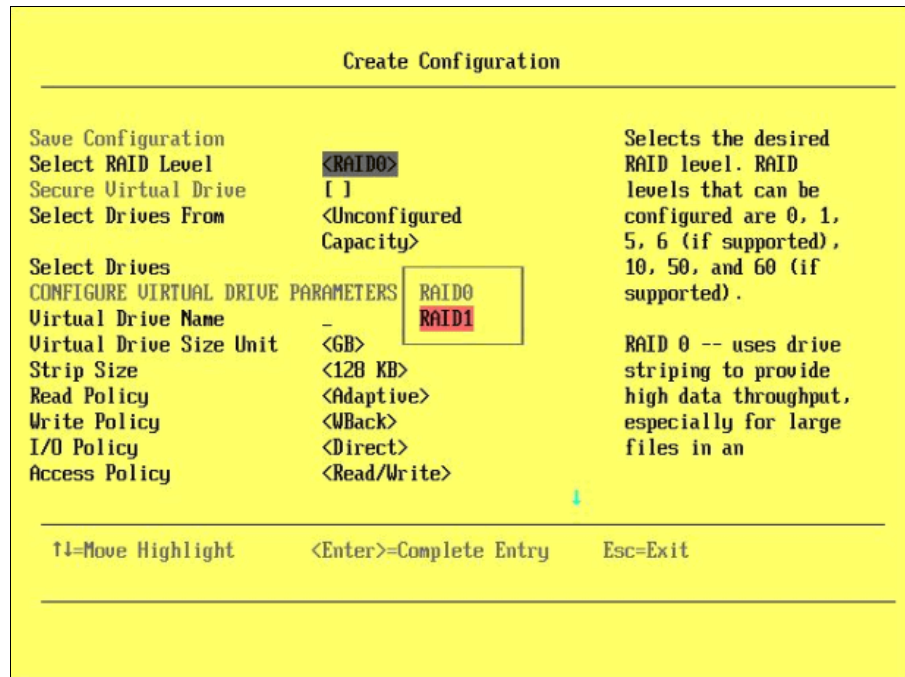

Figure 2-25 Create Configuration pane: Selecting the RAID level
8. Select **Select RAID Level** and select **RAID 1**, as shown in Figure 2-25.